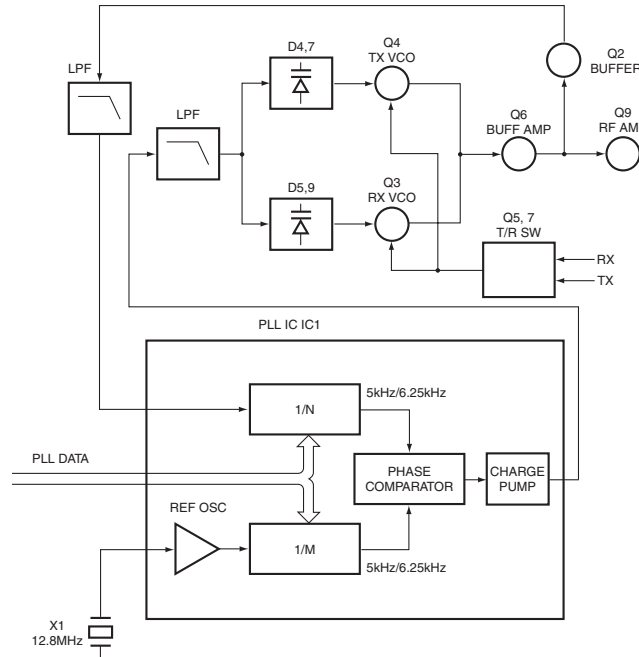

Fig. 5 PLL circuit / 图 5 PLL 电路
A 12.8MHz reference oscillator signal is divided at IC1 by a fixed counter to produce oscillator (VCO) output signal which is buffer amplified by Q2 then divided in IC1 by a programmable counter. The divided signal is compared in phase with the 5 or 6.25kHz reference signal from the phase comparator in IC1. The output signal from the phase comparator is filtered through a low-pass filter and passed to the VCO to control the oscillator frequency. (See Fig. 5)
12.8MHz 的参考振荡信号在 IC1 中被一个固定计数器分频。振荡器 (VCO) 的输出信号由 Q2 缓冲放大，然后在 IC1 中被一个可编程双模块计数器分频。分频的信号在 IC1 的相位比较器中进行比较。生成的信号通过一个低通滤波器滤波后传送到 VCO 控制振荡器频率。(见图 5)